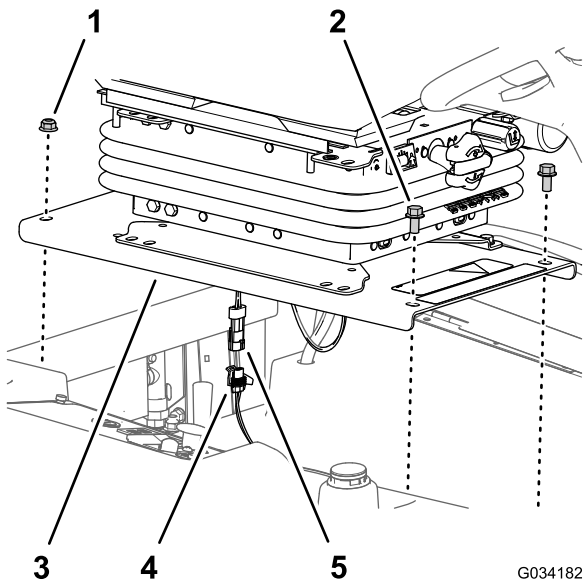

Figure 38
1. Remove the 2 flange-head bolts (3/8 x 3/4 inch) at the that secure the front of the seat plate to the chassis of the machine (Figure 38).
4. Assemble the seat plate (Figure 38) to the carriage bolts with the 2 flange locknuts (3/8 inch) that you removed in step 2 of Removing the Seat and Seat Plate \(page 37\).
5. Align the front holes in the seat plate (Figure 38) with the threads of the tank rods.
6. Assemble the seat plate (Figure 38) to the tank rods with the 2 flange-head bolts (3/8 x 3/4 inch) that you removed in step 1 of Removing the Seat and Seat Plate \(page 37\).
2. Remove the 2 flange locknuts (3/8 inch) at the that secure the back of the seat plate to the chassis of the machine (Figure 38)
4. Disconnect the 2-pin connector for the operator-presence switch harness from the 2-socket connector of the wire harness for the machine (Figure 38).
2. Connect the 2-pin connector for the operator-presence switch harness into the 2-socket connector of the wire harness for the machine; refer to Figure 38 of Removing the Seat and Seat Plate \(page 37\).
3. Align the rear holes in the seat plate (Figure 38 of Removing the Seat and Seat Plate \(page 37\)) with the 2 carriage bolts (3/8 x 1 inch) in the radiator channel.